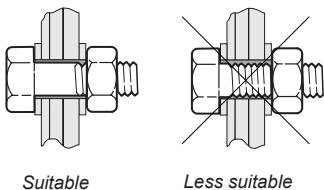

Fig. 1
- The length of the bolts must be chosen so that the unthreaded part of the bolt passes as far through both the truck chassis and the drawbeam as possible. See fig. 1.